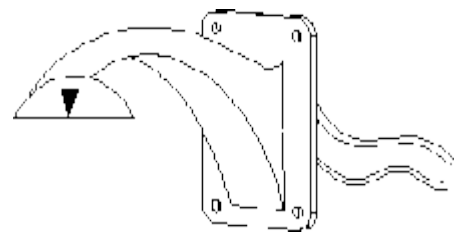

Figure 8
- i. Put the bracket on the wall and tighten the four M8 screws as Figure 8.